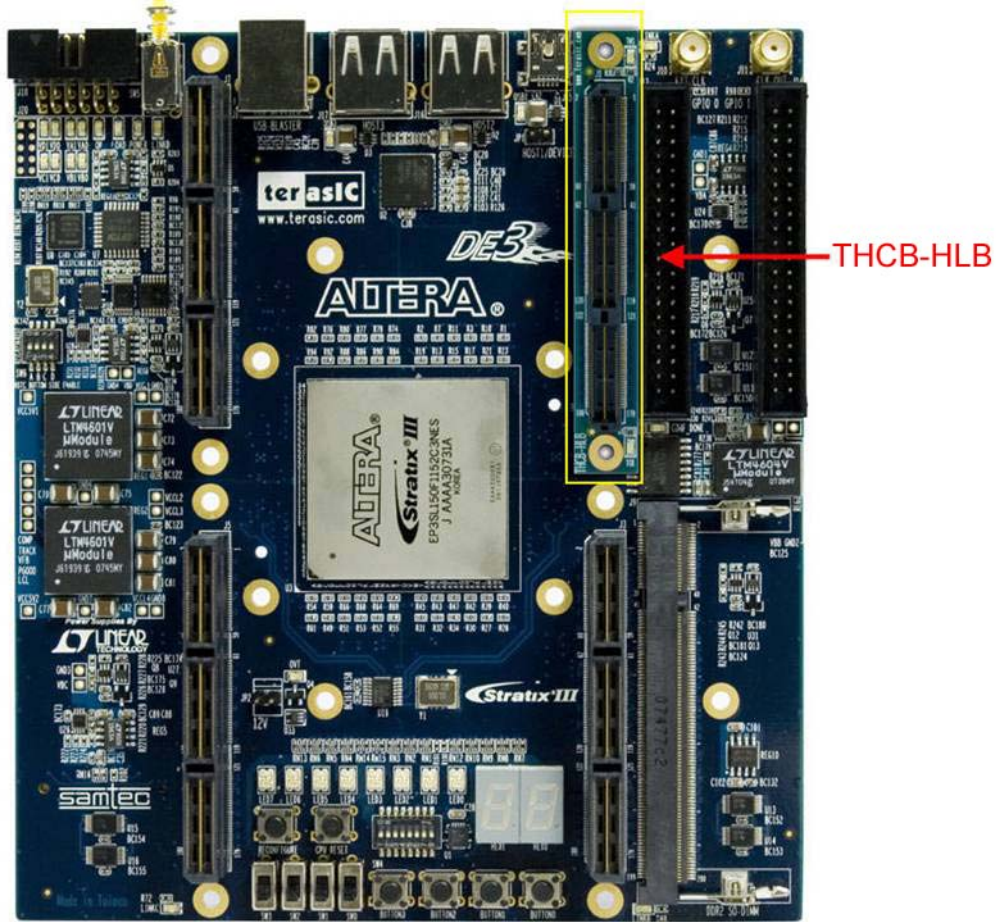

Figure D.2. The connection setup for THCB-HLB and DE3 board
4. Connect the THCB_HLB adapter card to the HSTC connector which is needed to be tested as shown in Figure D.2.